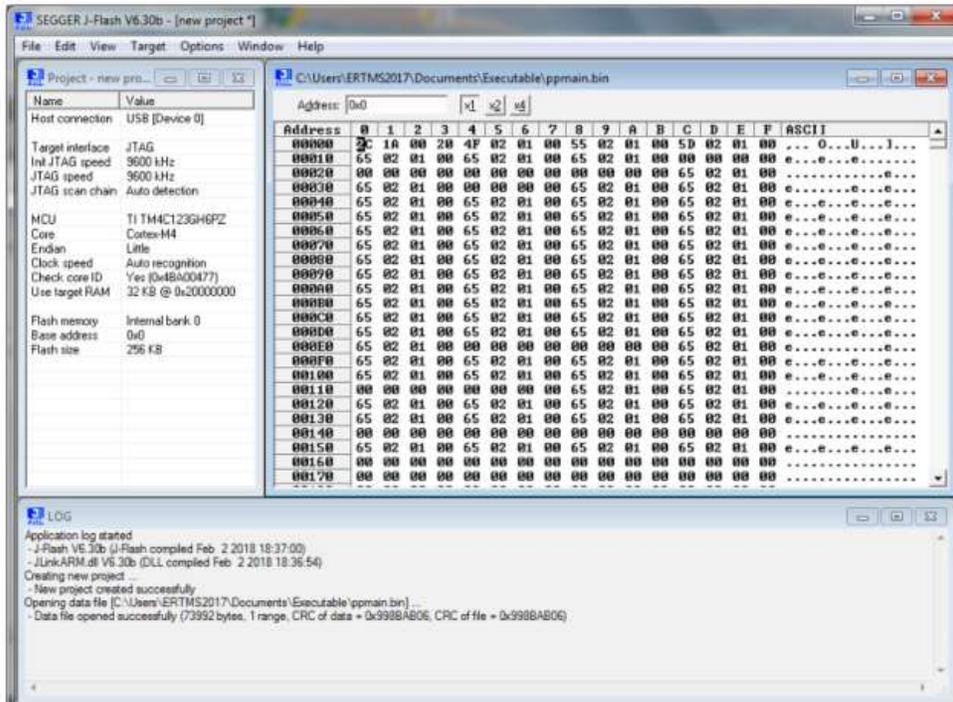

Figure 25: Screen ppmain.bin [LoadFile\_done]
- 11. The file "ppmain.bin" now loads and the screen "...Executable\ppmain.bin" appears (Figure 25, STMA-69151);